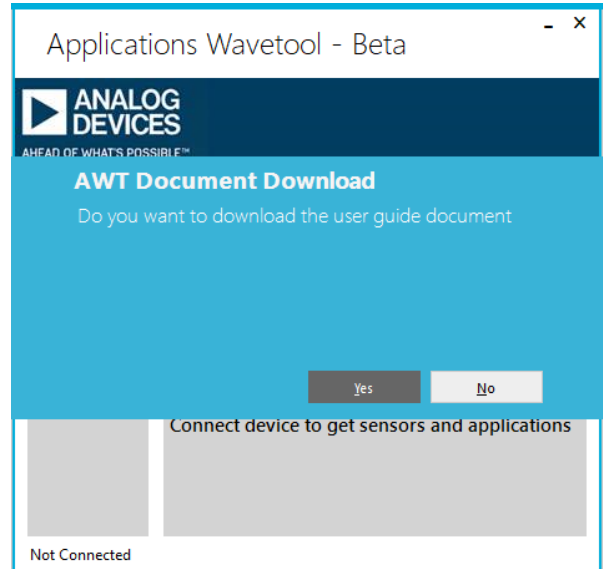

Figure 3. *AWT Document* Download Prompt
After installing the Wavetool Evaluation Software, download the AWT Document, a user manual for the Wavetool Evaluation Software (see Figure 3), which allows online access to the document as well as the hardware setup. The AWT Document contains videos that show the following:
2. If this is the first time opening the Wavetool Evaluation Software, users are prompted to download the AWT Document as shown in Figure 3.